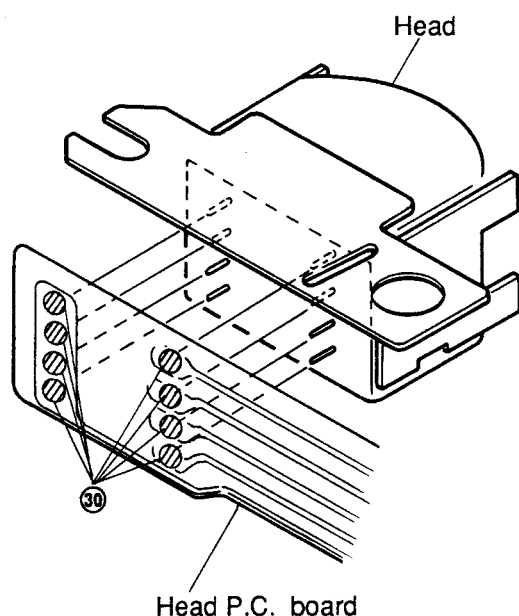

Figure 22
- (2) Remove solder ③⑩ and remove the head from the head PC board as shown in Figure 22.
- (3) After replacement, mount the new head following the removal steps in the reverse order.